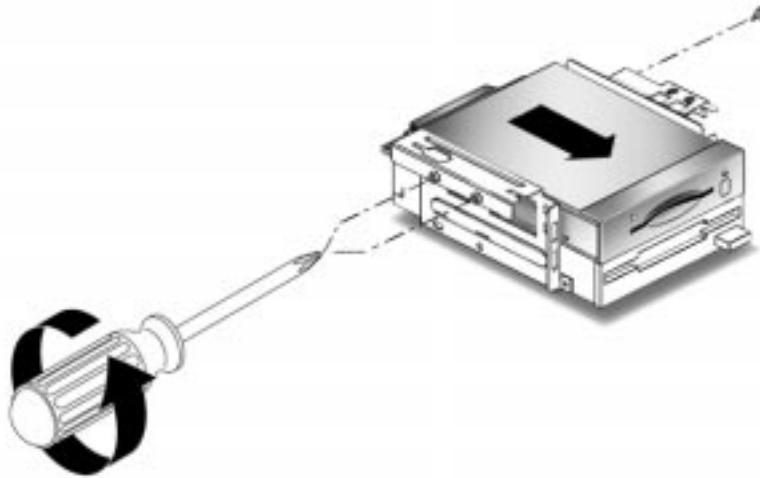

FIGURE 7-2 Removing and Replacing the Smart Card Reader
7. Using a No. 2 Phillips screwdriver, remove the three screws securing the smart card reader to the peripheral assembly (FIGURE 7-2).
2. Using a No. 2 Phillips screwdriver, replace the three screws securing the smart card reader to the peripheral assembly (FIGURE 7-2).